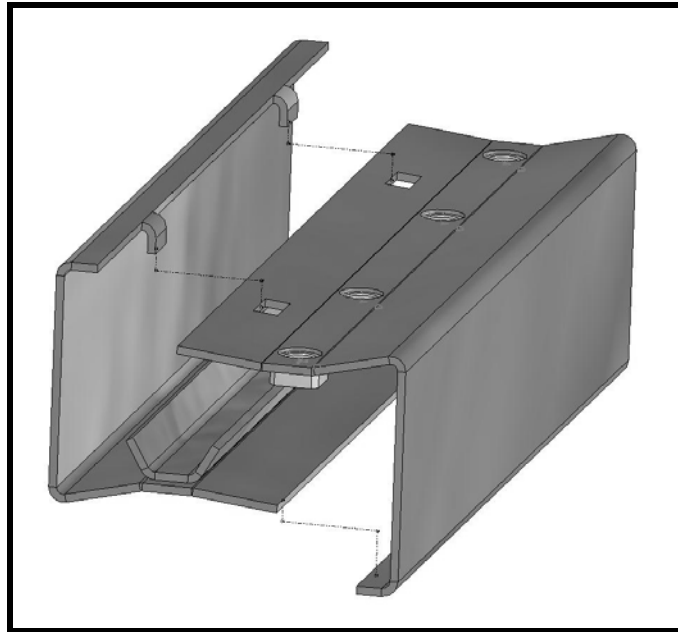

Figure 39 – Coupler
- a) Assemble coupler. *See Figure 39.*